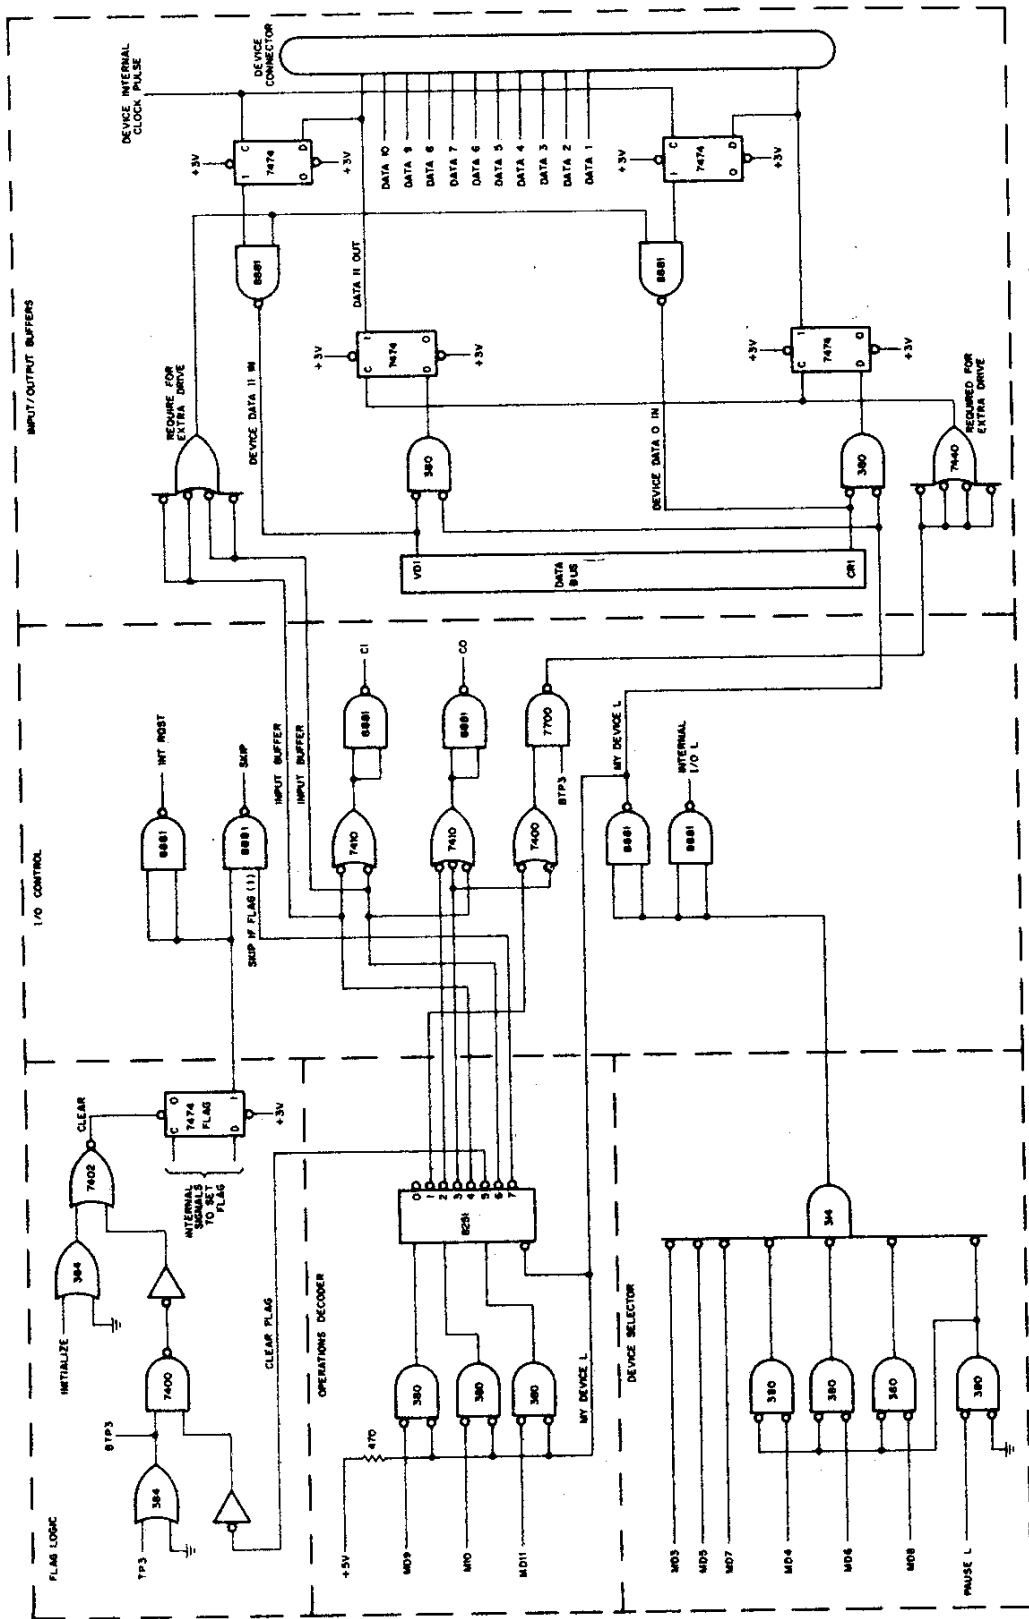
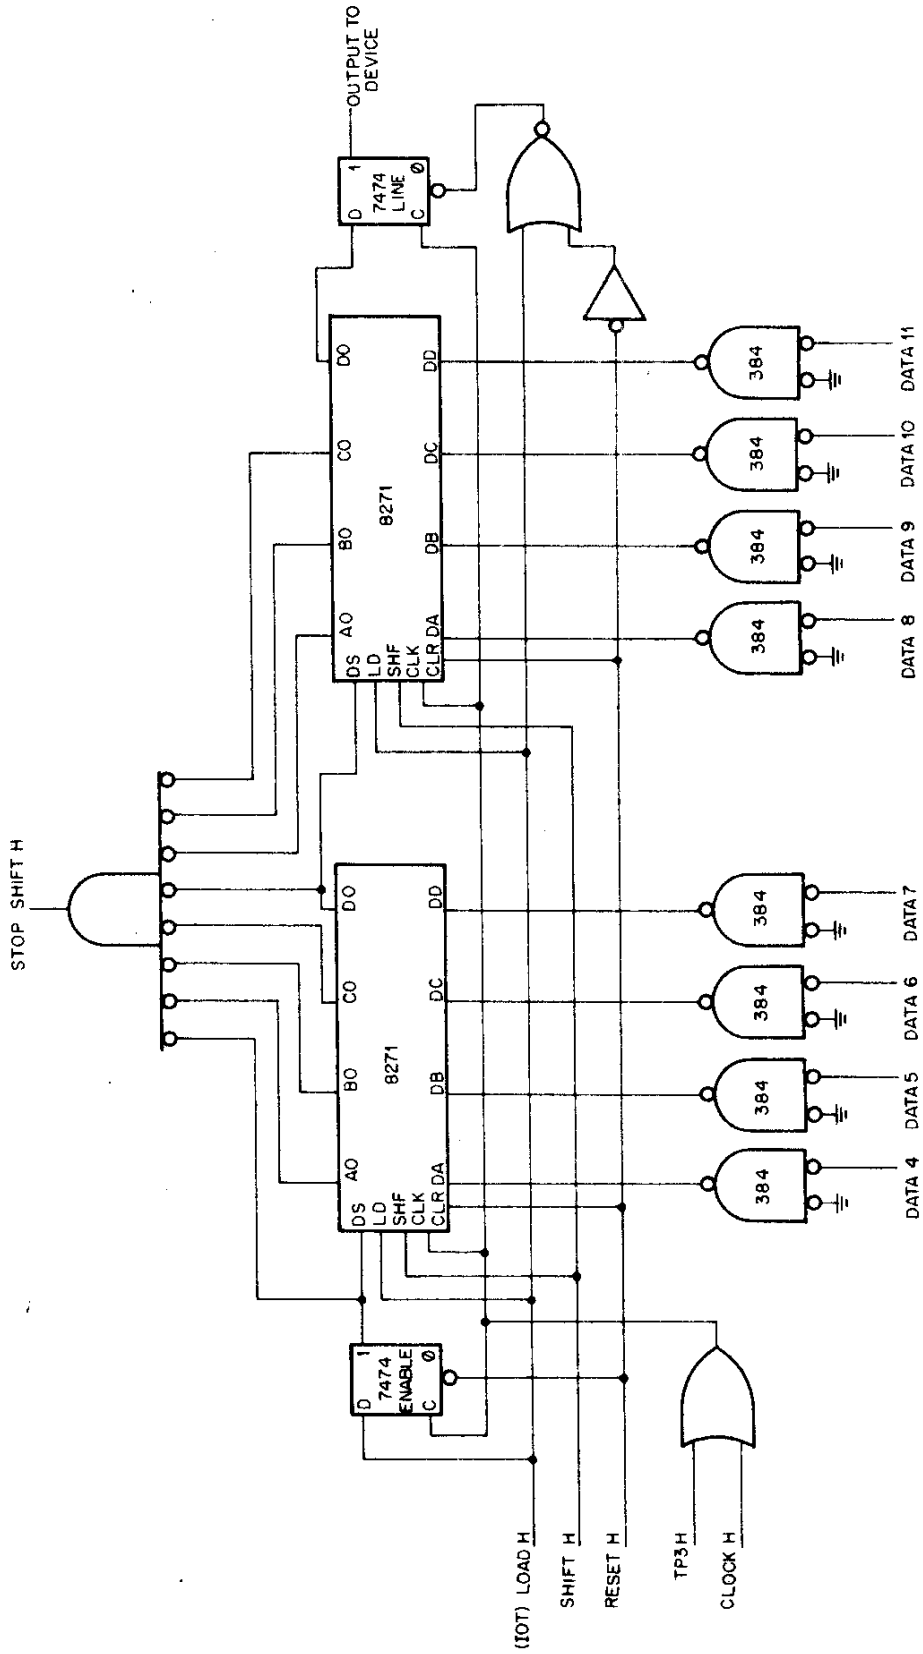

Figure 9-11 Sample Programmed I/O INTERFACE Control Logic
Figure 9-12 Parallel to Serial Output Buffer
The basic interface control circuits to either transfer data in or transfer data out consists of: 1) a device selection circuit, 2) a device operations decoder, 3) I/O control logic, and 4) input/output buffers. An example of a basic programmed I/O interface control is illustrated in figure 9-11 followed by the related timing.
**DEVICE SELECTION CIRCUIT—**MD3-8 bits are used to carry the device select information. The example given in figure 9-11 shows the DEC380 and DEC314 being used as a simple decoder. When octal 52 is received and signal PAUSE is grounded by the processor, gate 314 is qualified. The output is used to assert signals INTERNAL I/O L and MY DEVICE L. No operation can occur unless signal MY DEVICE is grounded by the device selection decoder.
**OPERATIONS DECODER—**MD9-11 bits determine the type of operation to be performed. Three DEC380's are shown (see figure 9-11) receiving these bits. The outputs of these gates are in turn presented to a binary-to-octal decoder type 8251 and the decoded results control the interface in the manner shown in table 9-6.
**OUTPUT BUFFER**—The output buffer serves to receive processor data during an IOT instruction and outputs data to a device at the device timing. Two types of output transfers can be made depending upon the device. A parallel to parallel transfer will transfer the parallel data from the DATA BUS to an equal number of parallel lines to the device. A parallel to serial transfer will load the parallel data from the DATA BUS into the buffer and shift the data out to a single output line to the device. Figure 9-12 illustrates a parallel to serial output buffer. Signal LOAD BUFFER gates the contents of the DATA BUS onto the set side of the register flip/flops. This illustration shows 8 data bit flip/flops in between an ENABLE and LINE flip/flops. A shift control circuit must also be added to provide the necessary buffer control.
A more simple version is the parallel to parallel transfer. The illustration in Figure 9-12 could be slightly modified to include only the input gates and the flip/flops; data can be applied to the output circuit from the one side of each flip/flop.
In the sample Programmed I/O Interface Control (figure 9-11), each input flip-flop is a type 7474 and is represented on the illustration as a 12-bit buffer register. The data OUTPUT is clocked by IOT 6521 or 6523 and TP3. However, for a parallel to serial conversion (figure 9-12), the LOAD IOT loads the buffer with TP3H and shifts the data with each internal clock & shift pulse.
In the sample Programmed I/O Interface Control (figure 9-11), each buffer register is a type 7474 and is represented on the illustration as a 12-bit buffer register. The data input is clocked in by the device's internal timing and gated out to the DATA BUS by IOT 6524.